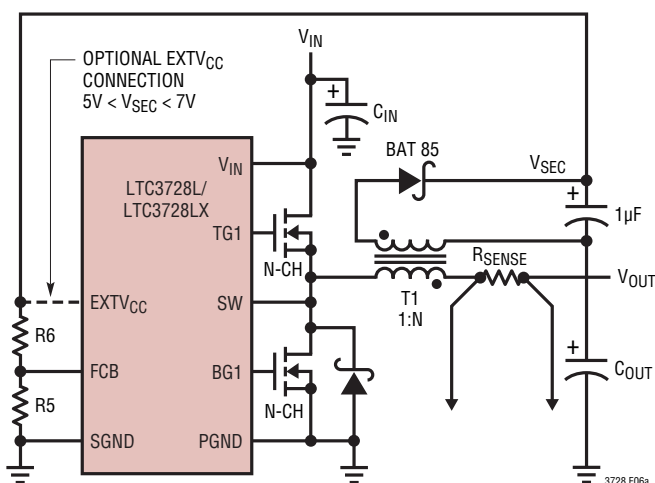
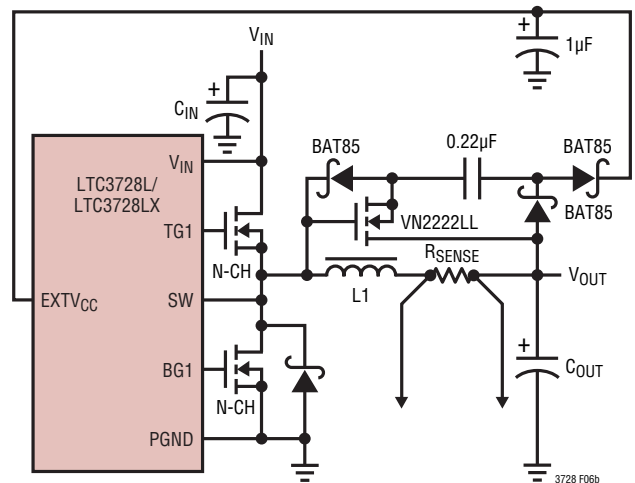

Figure 6a. Secondary Output Loop and $EXTV_{CC}$ Connection
Figure 6b. Capacitive Charge Pump for $EXTV_{CC}$
4. $EXTV_{CC}$ Connected to an Output-Derived Boost Network. For 3.3V and other low voltage regulators, efficiency gains can still be realized by connecting $EXTV_{CC}$ to an output-derived voltage that has been boosted to greater than 4.7V. This can be done with either the inductive boost winding as shown in Figure 6a or the capacitive charge pump shown in Figure 6b. The charge pump has the advantage of simple magnetics.
The secondary output voltage, V_{SEC} , is normally set as shown in Figure 6a by the turns ratio N of the transformer: